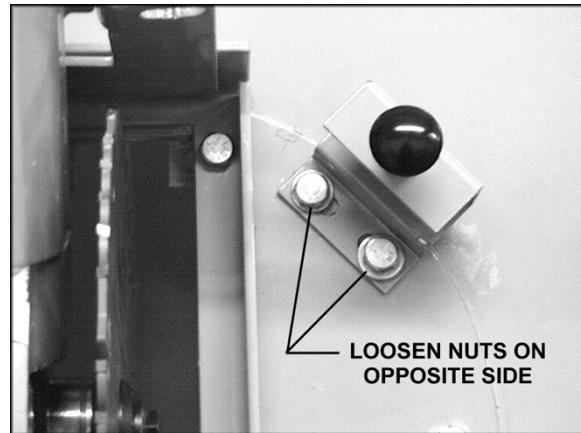

Figure 18
6. Loosen, but do not remove, the two nuts holding the indexing pin assembly. See Figure 18.